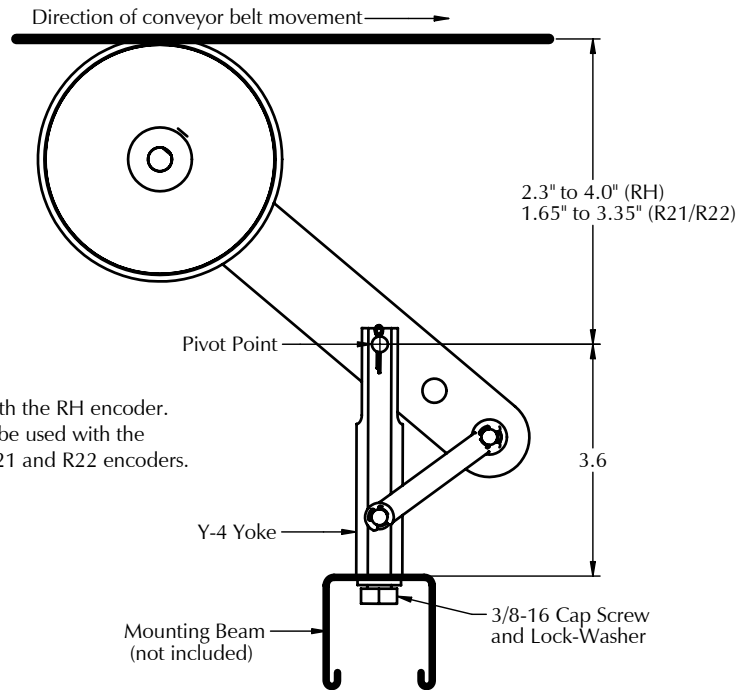

Figure 1: MB-UB4 Assembly (shown with RH wheeled encoder)
The MB-UB4 underbelt mounting assembly facilitates installation of the model RH, R21 or R22 wheeled encoders under the conveyer belt (or roller) as shown in figure 1. The Y-4 yoke provides a pivot point that allows the up/down and some sideways movement of the encoder with the conveyer belt while the springs assure constant contact of the wheels to the conveyor. The pivot point and Y-4 yoke are centered on the encoder to automatically optimize alignment with the conveyor. Nylon washers are included to accommodate the thinner handle on the R21 and R22 wheeled encoders.
2. Bolt the Y-4 yoke to the mounting beam (not supplied) using the 3/8-16 hex cap screw and lock washer supplied. The Y-4 should be perpendicular to the conveyor belt with the pivot point below the belt as shown in figure 1, and positioned so it is aligned with the belt. The greatest pressure is applied when the pivot point is closest to the belt. **Caution:** If the encoder is not well aligned with the belt, premature wheel wear will result.